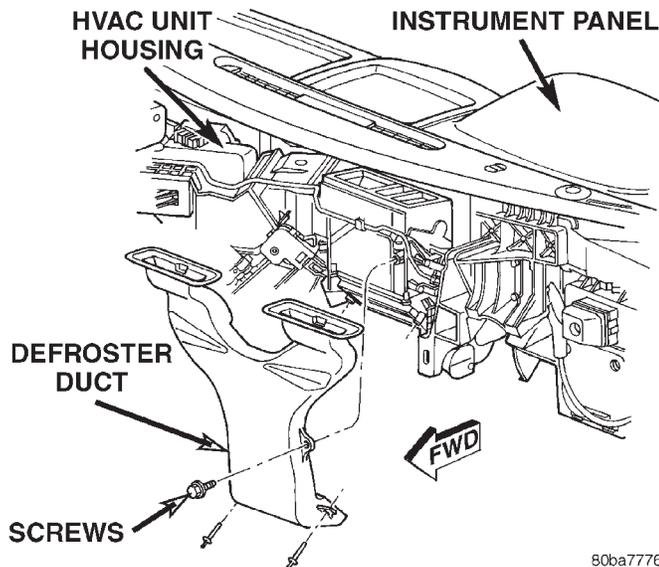

Fig. 36 HVAC Defroster Duct
- (1) Remove the instrument panel assembly from the vehicle. See Instrument Panel Assembly in Group 8E - Instrument Panel Systems for the procedures.
- (2) Remove the three screws that secure the defroster duct to the HVAC unit housing (Fig. 36).